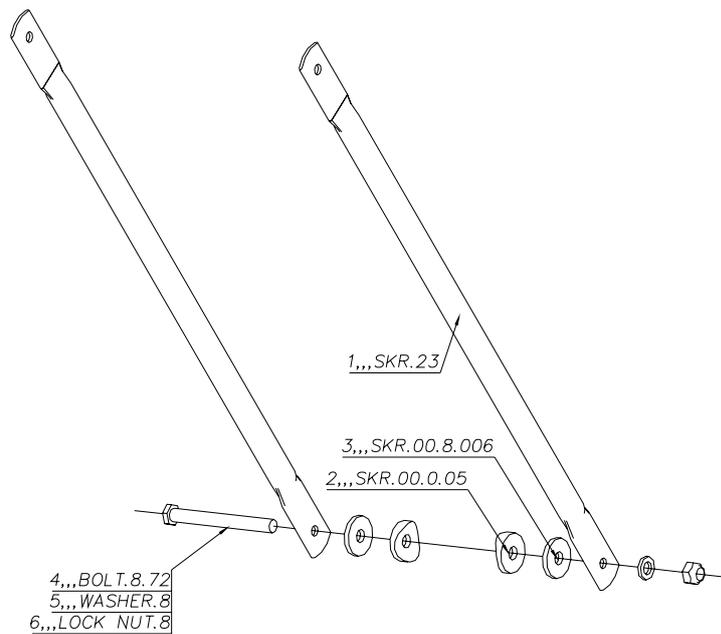
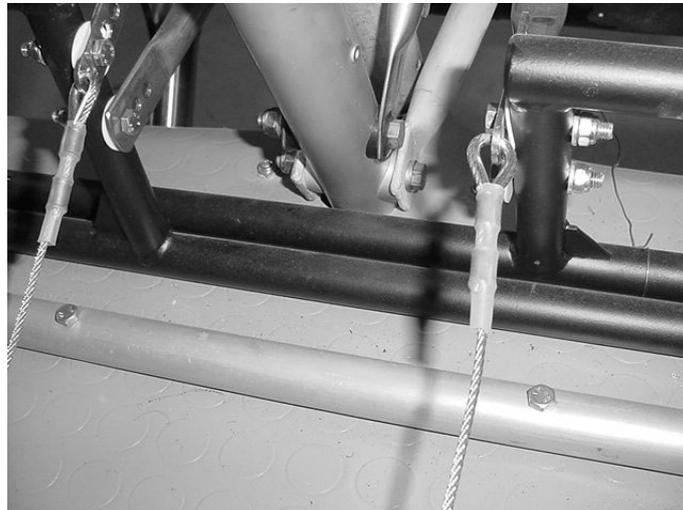
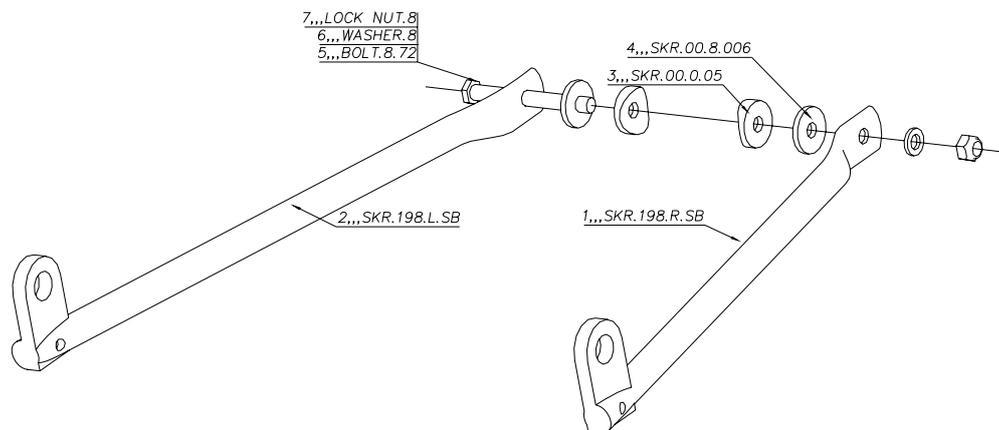

Figure 36; lower engine mount triangulation tubes.
Figure 37; lower engine mounts and braces.
Figure 40; Rotax 912 lower engine mounts.
- e) Loosely fix the two stainless-steel lower triangulation tubes **tu23** to the front vertical tube **tu14**, including saddle washers, Figure 37 and Figure 36.
- k) The lower engine mounts, Figure 40, should be attached to the front vertical **tu14**, visible in Figure 37.
- i) The lower engine mounts, Figure 40, should be attached to the front vertical **tu14**, visible in Figure 37 (Jabiru version is slightly different but fits in the same manner).